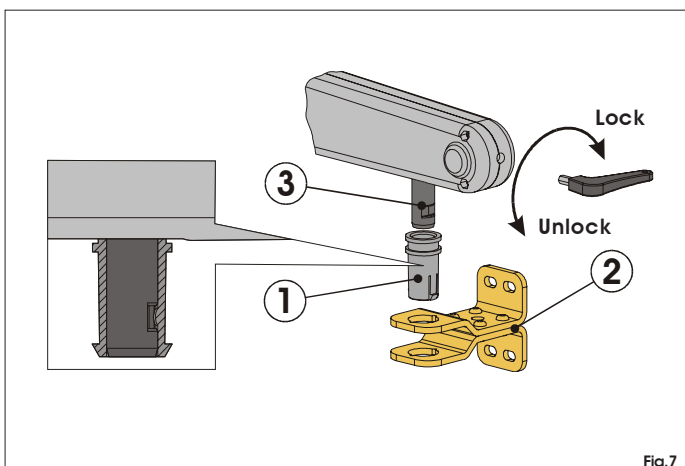

Fig.7
- Check if the pin (Fig. 7 Ref. 3) is in contact with the front of the operator. If it is not, turn the release key - fitted in the appropriate seat (Fig. 7) - clockwise to the end of its travel.
- Turn the release key anti-clockwise for 6-7 turns as shown in Fig. 7.
Insert the bush (Fig. 7 Ref. 1) in the front fitting (Fig. 7 Ref. 2). The mechanical stop on the bush must coincide with the pin groove of the operator. Fit the pin (Fig. 7 Ref. 3) in the bush.